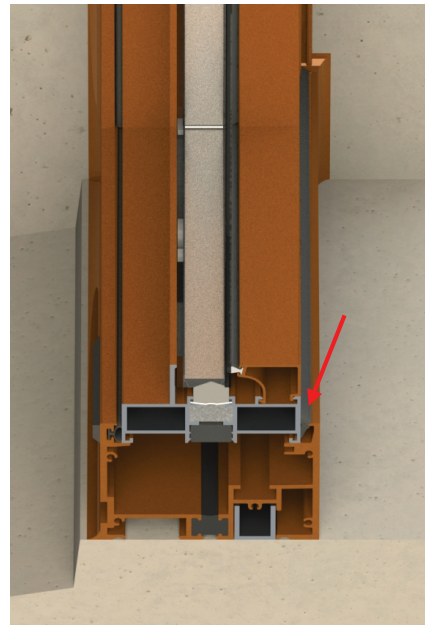

Fig. 17
- D. Apply the sub-sill wedge gasket into the interior side of the sub-sill against the window. (Fig. 17)